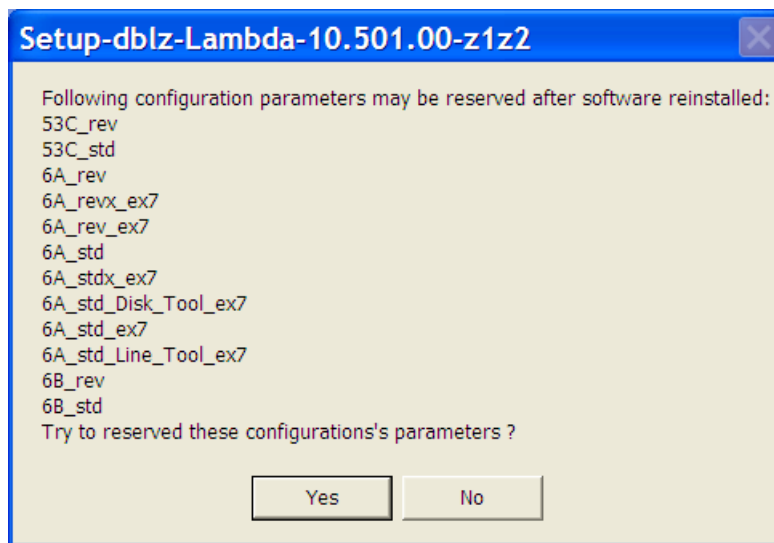

Fig. 2-3 Prompt to reserve parameter settings
- 4) Click [OK] for confirmation. If any old version software has been installed in this PC, the system will prompt to save its parameter settings. If you save the parameter settings here, you can apply all the settings to the current software, needless to set the parameters again afterwards. You can make your own decision and choose [Yes] or [No] to go ahead, see Fig. 2-3. If you install the software of the type for the first time, this step would be absent. Please jump to “Step 5)” to move on.